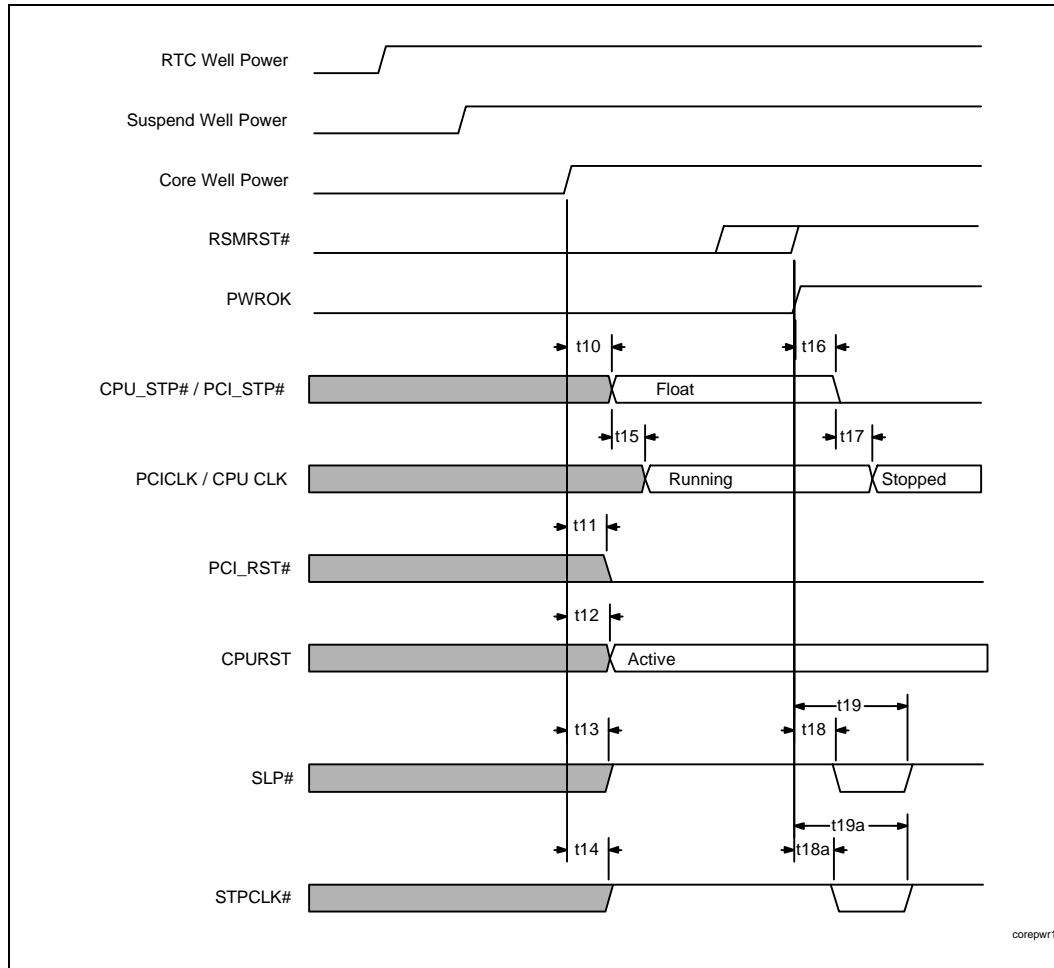
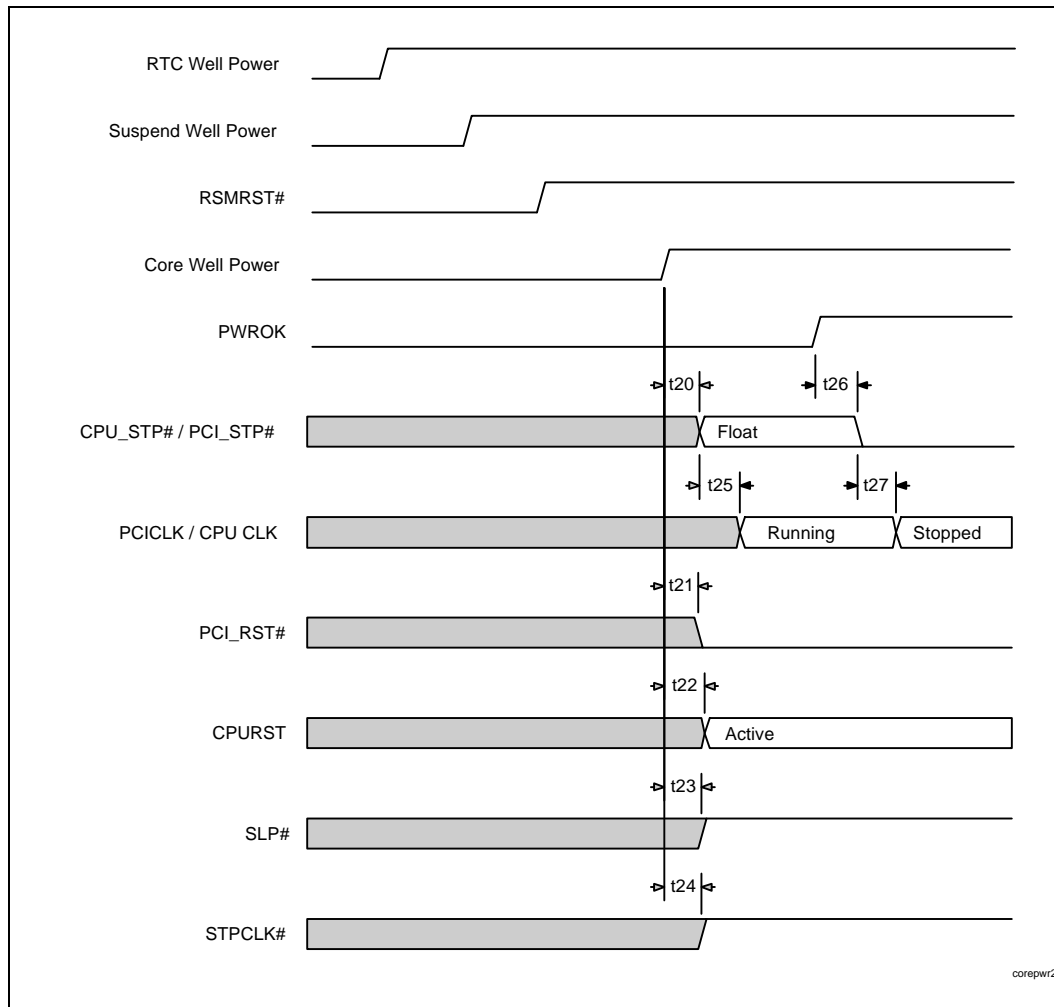
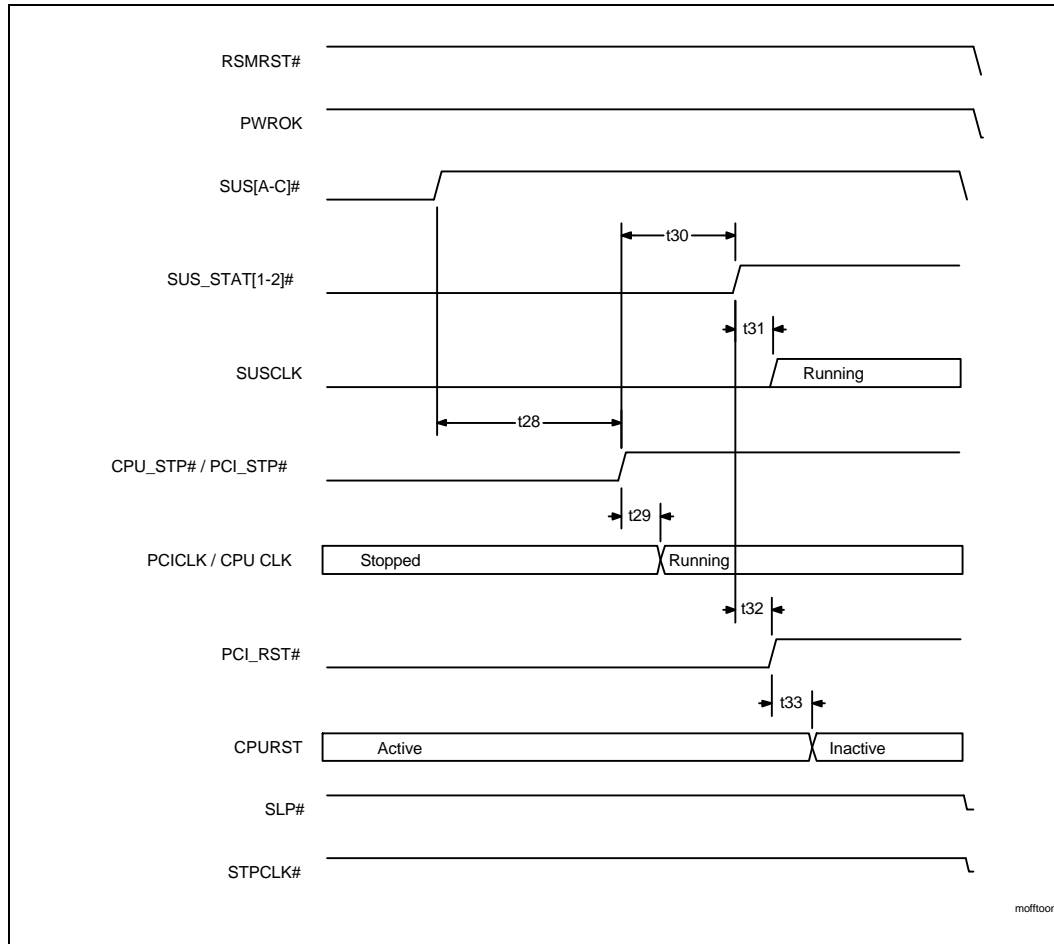

Figure 20. Core Well Power and PWROK Activated Signals (Core Well Power Applied Before RSMRST# Inactive)
Figure 21. Core Well Power and PWROK Activated Signals (RSMRST# Inactive Before Core Well Power Applied)
Figure 22. Mechanical Off to On
Figure 20 shows the timing relations for Power Management signals powered from the PIIX4 Core well. Here the power active status signals (RSMRST# and PWROK) transition after the application of all power to PIIX4. It can be applied to situations where two or more of the PIIX4 power planes are connected together. It also shows timings when RSMRST# and PWROK are connected together.
2. There are no specific requirements for these timings related to PIIX4. The system manufacturer should make sure that the clocks on power up meet any other system specifications. As a minimum, the clocks must be available and stable after time t30 shown in Figure 22.
Figure 21 shows the timing relations for Power Management signals powered from the PIIX4 Main Core well. Here the Suspend well power active status signals (RSMRST#) transition before the application of Core well power to PIIX4.
Figure 22 shows the transition from a Mechanical Off condition to the On condition. The signal states begin at the final states shown in Figure 20 and Figure 21.